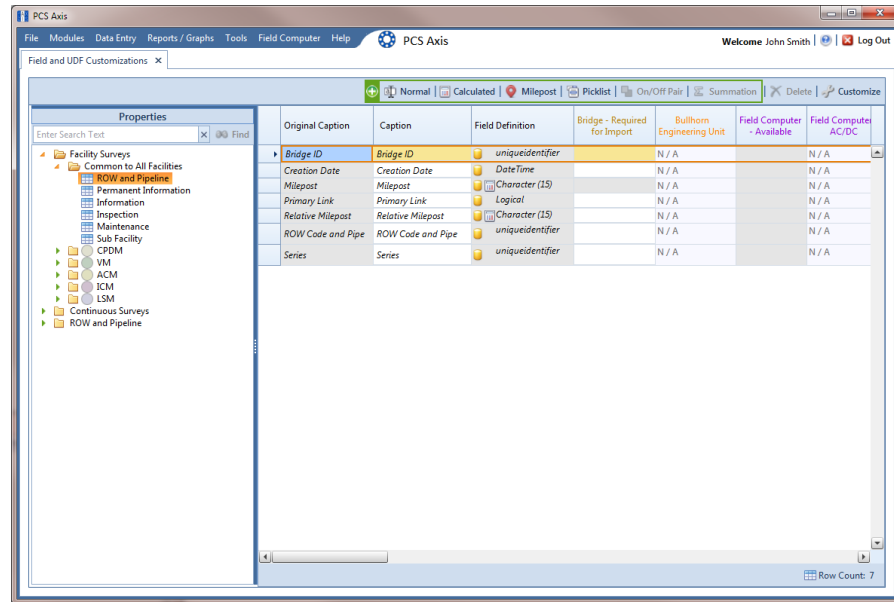

Figure 10-1. Field and UDF Customizations
- 1 Click **Tools** > **Field and UDF Customizations** to open the *Field and UDF Customizations* window (Figure 10-1, page 493).